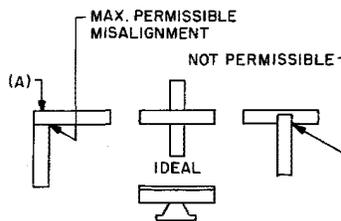

Fig. 7—Contact Alignment
- 2.11 Contact Alignment (S1, S2, and S3 Switches):** The contacts shall line up (Fig. 7) so that the width on the contact surface of each contact bar falls wholly within the length of its mating bar. Gauge by eye.